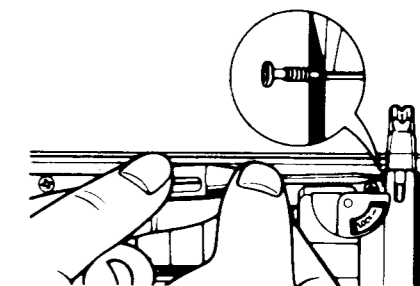

Fig. 5
2. Loosen the cartridge setscrew with the screwdriver. (Turn the set-screw until it is freed as shown in Fig. 5.)